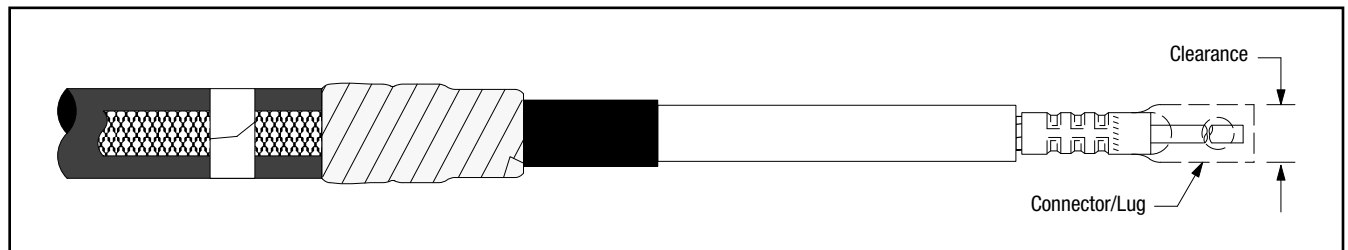

Figure 5
- 4.1 Check to insure 3M™ Silicone Rubber Termination QT–III termination assembly fits over the selected lug or connector (*Figure 5*) will not fit through the termination core, clean the insulation (*per Step 5.0*) and slide termination on cable before installing lug or connector. **DO NOT REMOVE CORE AT THIS TIME.**